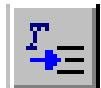

Figure 61: T-Spice **Command Tool**
- Click the T-Spice **Command Tool** (Figure 61).